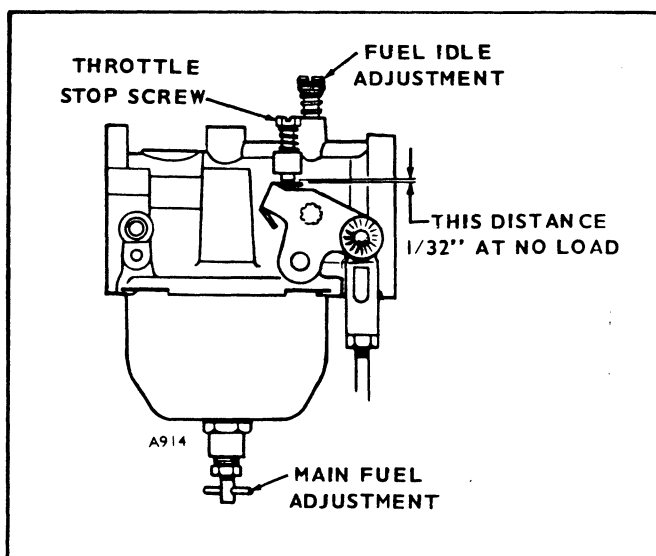

FIGURE 4. CARBURETOR ADJUSTMENT
CAUTION Forcing the needles against their seats will damage them. Even when turned fully in, the needles still permit some flow of fuel. See Figure 4.
5. With the carburetor and governor adjusted, set the throttle stop screw, Figure 4, to allow 1/32" clearance at the stop pin with the engine operating at no load. This prevents excessive hunting when a large load is suddenly removed.
Linkage: The engine starts at wide-open throttle. The length of the linkage connecting the governor arm to the throttle arm is adjusted by rotating the ball joint. Adjust the length so that with the engine stopped and tension pulling on the governor spring, the stop screw on the carburetor throttle lever is 1/32" from the stop pin, Figure 4. This setting allows immediate control by the governor after starting and synchronizes travel of the governor arm and the throttle shaft.